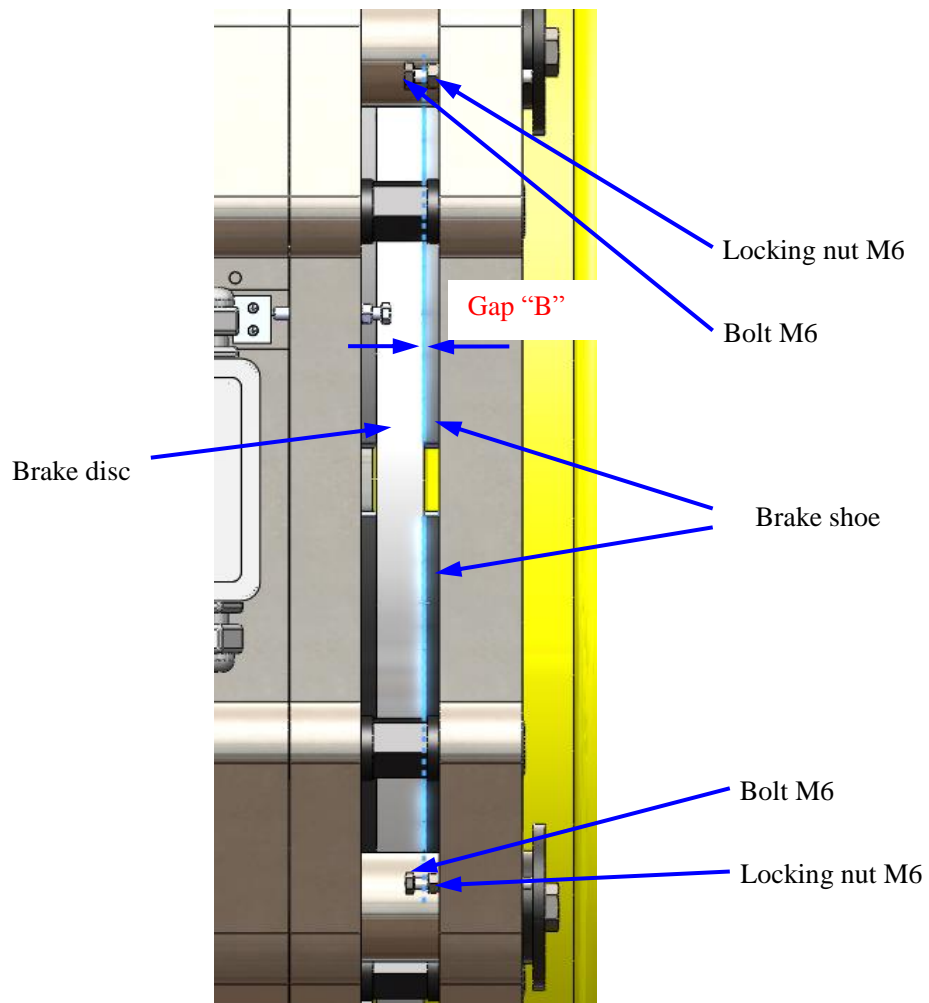

Figure 10: Brake Pad Adjustment
9. Tighten the locking nut M6 and reconfirm that the value of gap "B" is OK. See Figure 10.